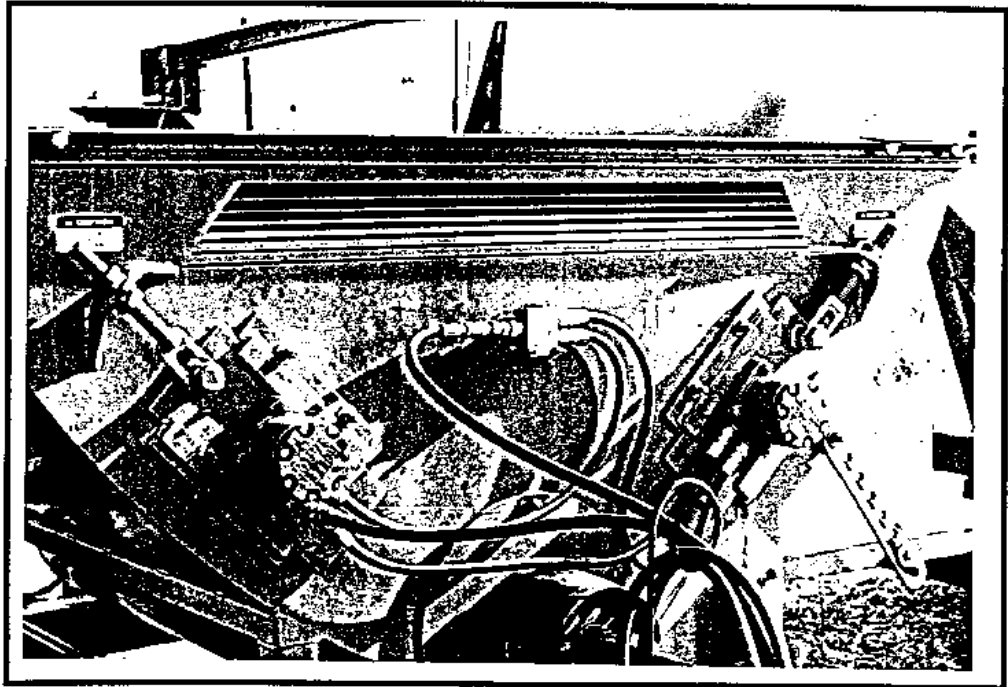

Figure 8
- b. Raise feeder drum using adjusting bolts on the front and rear side of the processor (Figure 8 below). This decreases the amount the flail penetrates the bale.